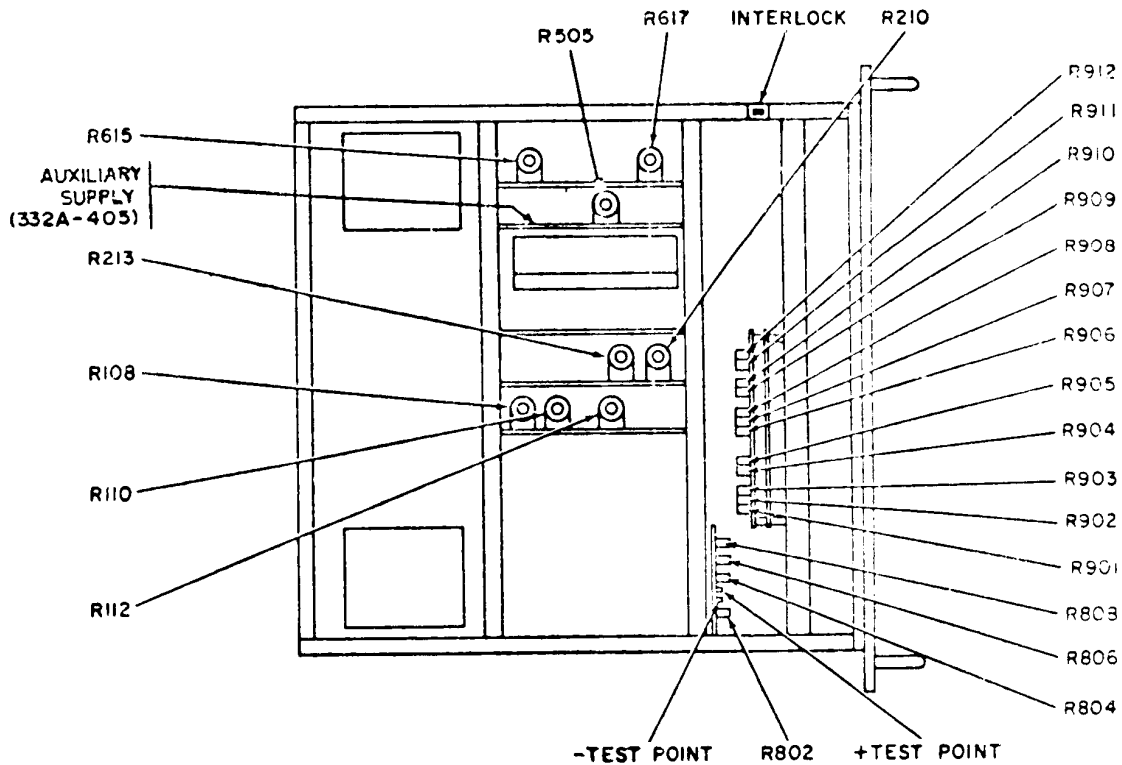

Figure 3. Model 332A top view - adjustment locations.
(1) Set  $\Delta E$  control of dc transfer standard to 000 and adjust R112 (fig. 3) for a null indication on null detector (R).
(2) Set  $\Delta E$  control of dc transfer standard to 000 and adjust R110 (fig. 3) for a null indication on null detector (R).
(3) Set  $\Delta E$  control of dc transfer standard to 000 and adjust R108 (fig. 3) for a null indication on null detector (R).
(1) Adjust R907 (fig. 3) for same indication on null detector (R). (Report only if difference is greater than 30 microvolts.)
- (1) Set TI voltage dials to 10.000000.
- (2) Adjust R804 (fig. 3) for a null indication on null detector (R).
- (3) Perform (1) and (2) above, but do not report adjustments.
- (4) TI voltage dials to 100.000000.
- (5) Adjust R806 (fig. 3) for a null indication on null detector (R).
- (6) Perform (4) and (5) above, but do not report adjustment.
- (7) Set TI voltage dials to 1000.0000.
- (8) Adjust R808 (fig. 3) for a null indication on null detector (r).
- (1) Set voltage dials to 10.000000.
- (2) Adjust R210 (fig. 3) for null indication on null detector (R).
- (3) Set VOLTAGE TRIP control fully clockwise.
- (4) Set POWER switch to STANDBY/RESET and back to ON.
- (5) Adjust R213 (fig. 3) fully counterclockwise.
- (6) Set VOLTAGE TRIP control to midrange.
- (7) Slowly adjust R213 clockwise until voltage trip circuit actuates (R).
- (8) Set voltage dials to 6.000000.
- (9) Adjust R617 (fig. 3) fully counterclockwise then clockwise until LIMIT ON lamp comes on. Panel meter should indicate 60 milliamperes (R).
- (10) Turn CURRENT LIMIT control to 0 (zero).
- (11) Adjust R615 (fig. 3) for indication of 1 milliampere on panel meter (R).